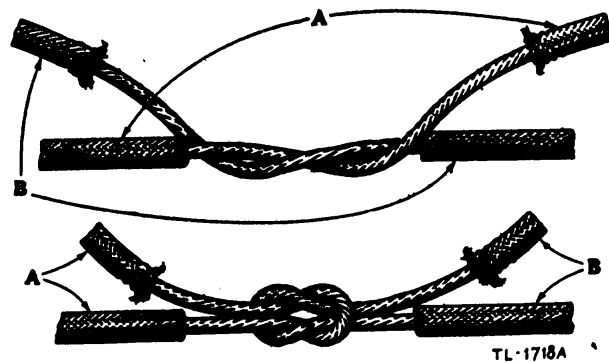

Figure 3
d. Tie the square knot, using one long and one short conductor, as indicated in figure 3.